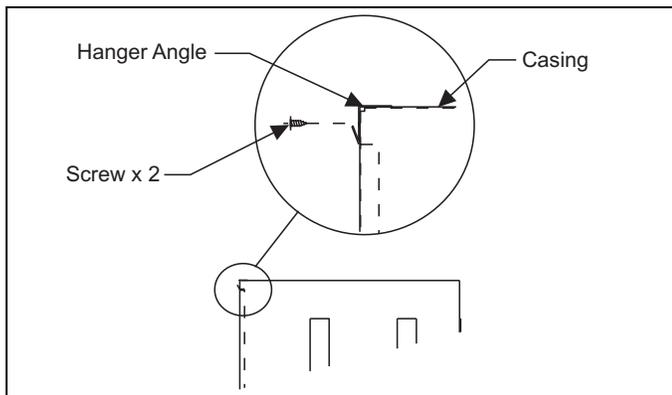

FIGURE 10: Hanger Angle Attachment
6. Remove two (2) screws that are on the front of the unit at the top. Obtain front panel hanger angle from the upflow kit 3500-7211*. Secure the hanger angle with two (2) screws removed from the furnace casing. See Figure 10.